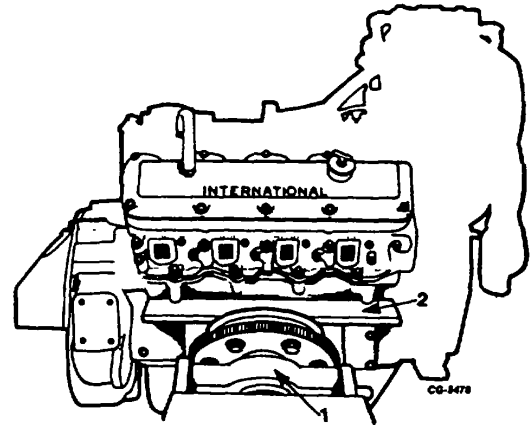

Figure 10. Engine Mounted on Overhaul Stand
Figure 10 illustrates a flow diagram of the engine lubricating system.
- e. Mount engine, with adapter, in overhaul stand (Figure 10).